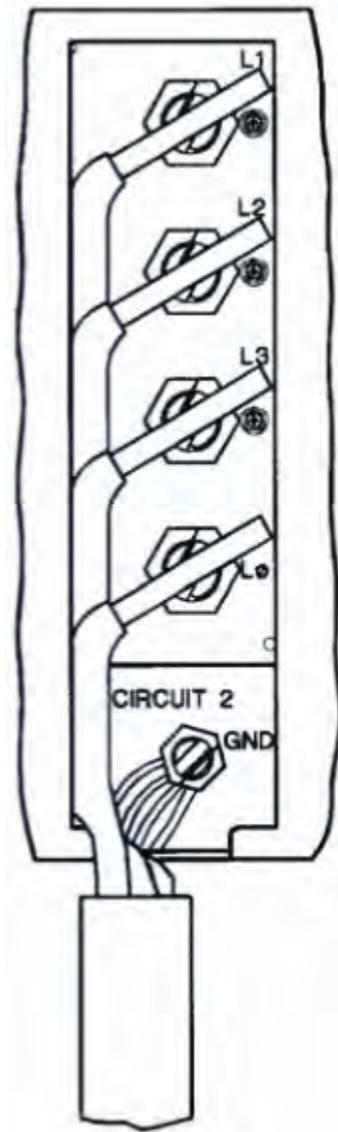

Figure 3. AN/ASM-189 () Power Cable Connection.
1. See Figure 3. Open and secure Circuit No. 1 or no. 2 circuit access cover. Connect all four green ground wires to the circuit ground terminal.
2. Position the other leads in the compartment and take the L1 conductor and position it across L1 terminal post. If the L1 conductor lead is too long, the excess must be cut-off. See Figure 3. After trimming L1 conductor lead, tin pig-tail end of cable in accordance with procedures. Secure conductor lead to the terminal post.
3. After securing L1, position the other leads in the compartment and take the L2 conductor and position it across L2 terminal post. If the L2 conductor lead is too long, the excess must be cut-off. See Figure 3. After trimming L2 conductor lead, tin pig-tail end of cable in accordance with procedures. Secure conductor lead to the terminal post.
4. After securing L1 and L2, position the other leads in the compartment and take the L3 conductor and position it across L3 terminal post. If the L3 conductor lead is too long, the excess must be cut-off. See Figure 3. After trimming L3 conductor lead, tin pig-tail end of cable in accordance with procedures. Secure conductor lead to the terminal post.
5. After securing L1, L2, and L3, position the other leads in the compartment and take the LØ conductor and position it across LØ terminal post. If the LØ conductor lead is too long, the excess must be cut-off. See Figure 3. After trimming LØ conductor lead, tin pig-tail end of cable in accordance with procedures. Secure conductor lead to the terminal post.